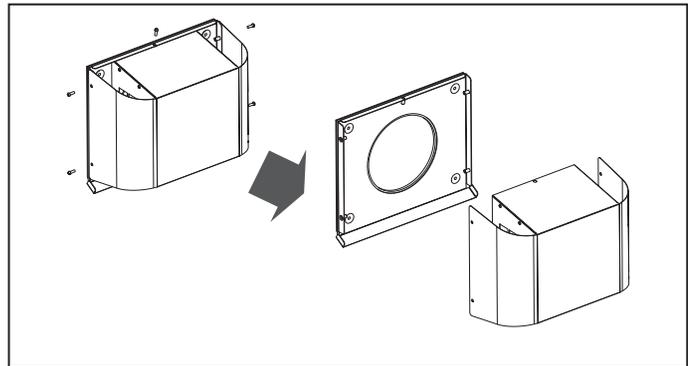

Fig. 8b.
• Abb. 8b - for the VENTO Solar V60 S Pro / S Pro2 models. Remove the 5 screws and take off the front part of the outer ventilation hood.